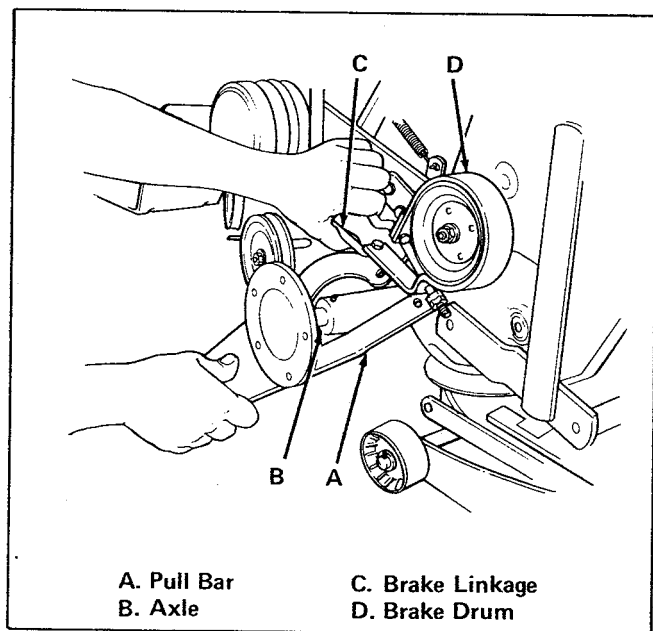

Figure 19. Slide New Pull Bar on Axle
7. Slip large hole in pull bar (item A, figure 19) over narrowest part of axle (item B). Then slide pull bar along axle toward transmission.